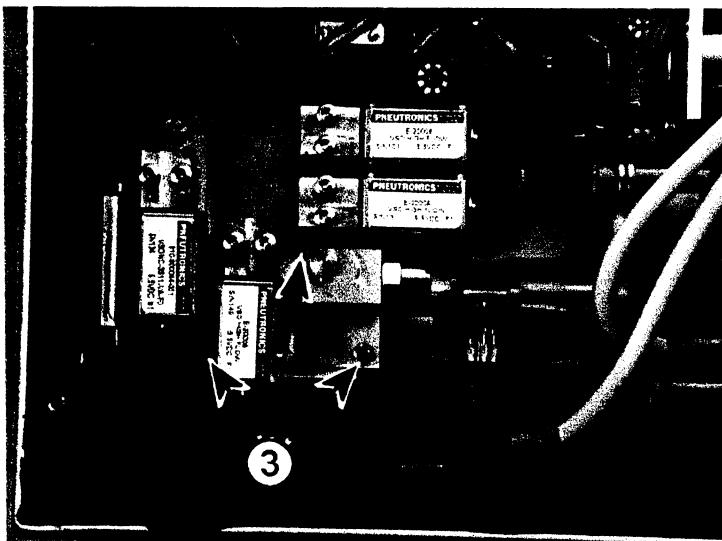

Fig. 2 Metering block fixing screws
4. Remove the metering block fixing screws Fig. 2/3.